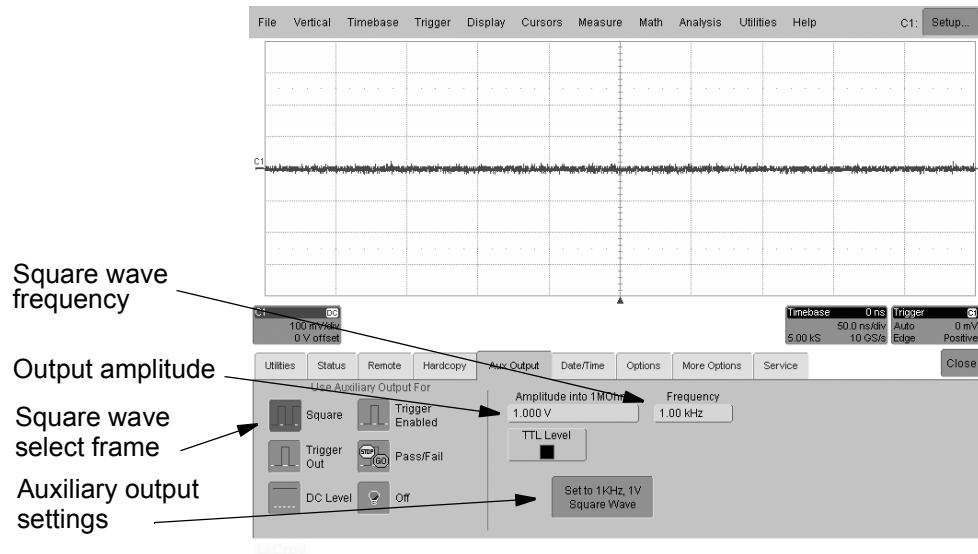

Figure 7-3. Auxiliary output set up.
9. Select Aux Output on the touch screen menu. See figure 7-3.